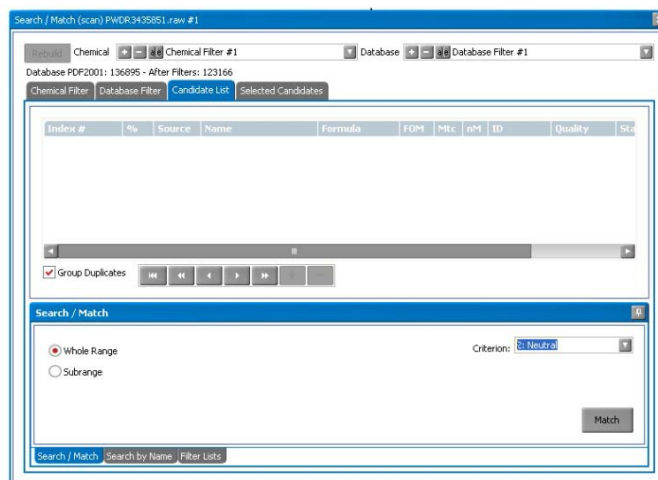

Figure 5. Search/Match Screen.
1.	Select Search/Match (scan) from Data Command Panel > Tools . Notice the Search/Match dialog box has four tabs (Figure 5): –Chemical Filter –Database Filter –Candidate List –Selected Candidates
In the *Criterion* field of the Candidate List Tab (*Figure 5*), begin the search with **2: Neutral**.